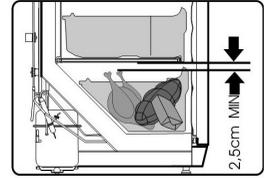

Fig. 6
- Maintain a minimum distance between frozen products of 2.5 mm (**fig. 6**).